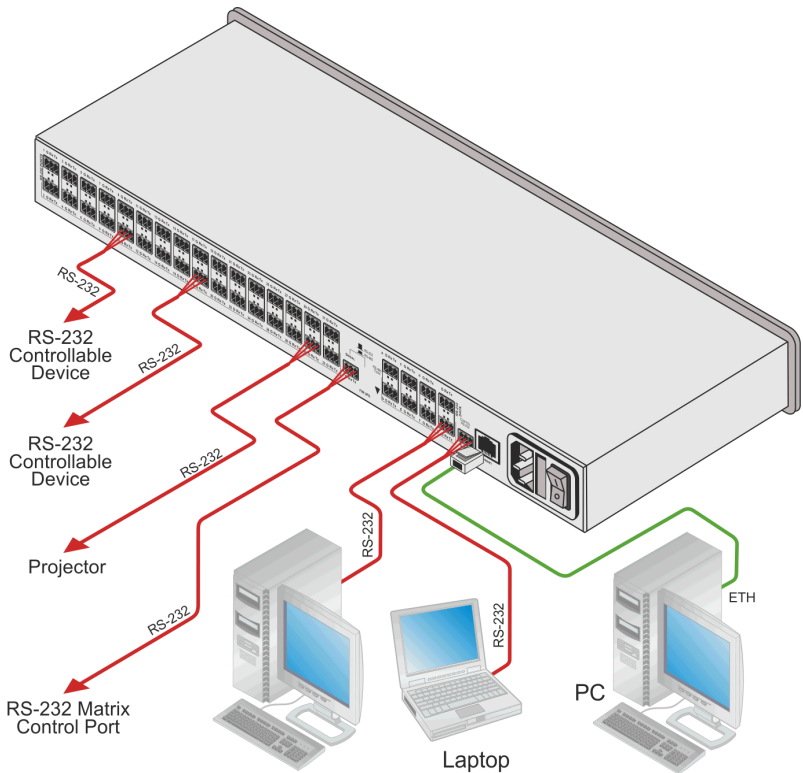

Figure 5: Connecting the FC-132ETH 33x9 Serial/Data Router
To connect the FC-132ETH as illustrated in the example in Figure 5:
6. Connect the device to the mains electricity (not shown in Figure 5) and power the device on.